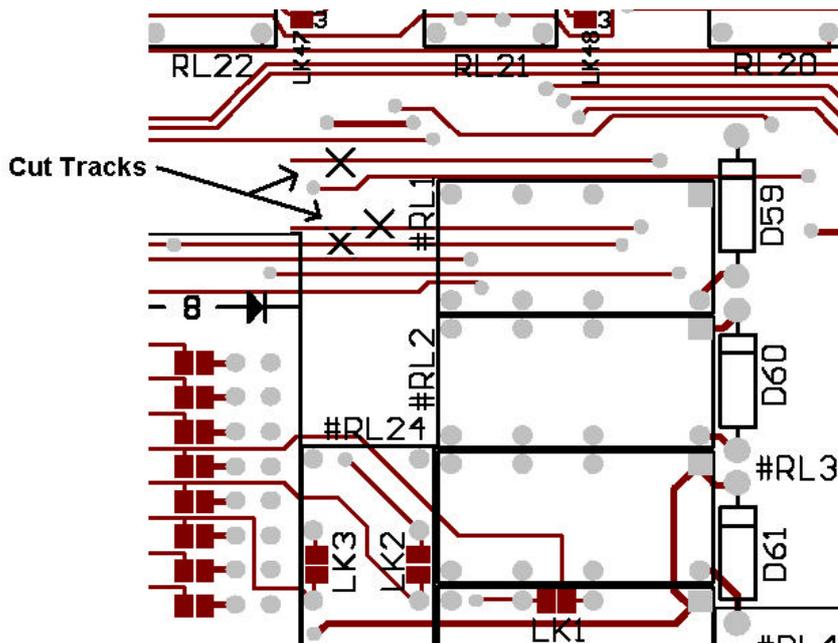

Fig: 1.
9. On the top of the PCB, cut the three tracks shown in Fig. 1.